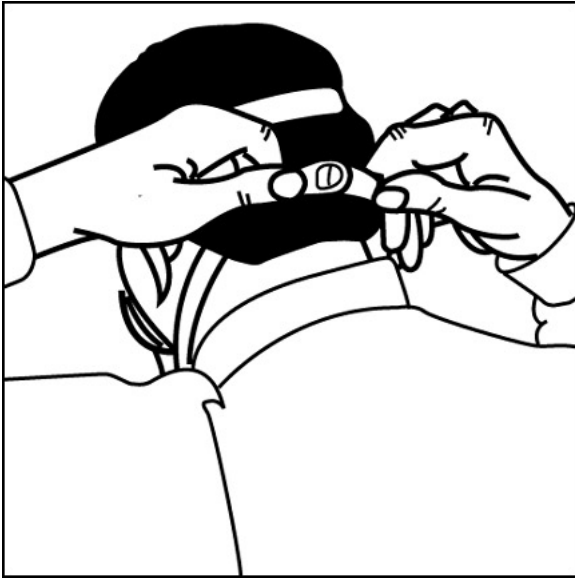

Fig. 2
2. Take the bottom straps in both hands, place them in back of the neck, and hook them together. (Fig. 2)